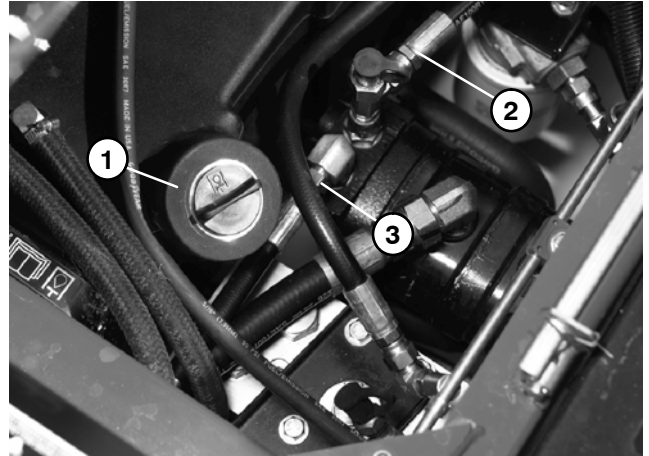

Figure 30
3. With the engine off and cutting units lowered, install tester in series between the last gear pump section and one of the circuit hoses (Fig. 30). Make sure the tester flow control valve is OPEN.